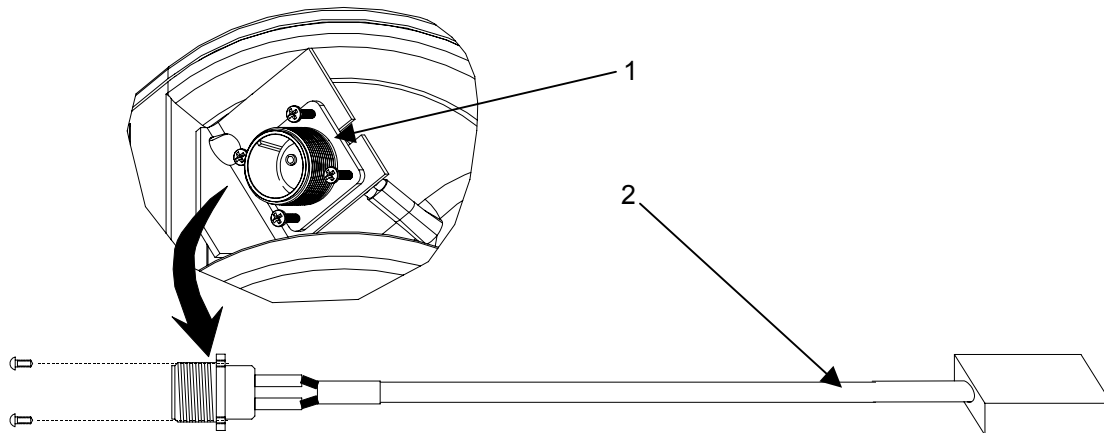

Figure 1. Inspect the Electrical Connector Assembly
1. Inspect the electrical connector (**figure 1, item 1**) for dents, loose or missing fasteners, and other damage that may prevent proper connection of a power cable.
2. Inspect the connector assembly (**figure 1, item 2**) for loose wires and frayed insulation.